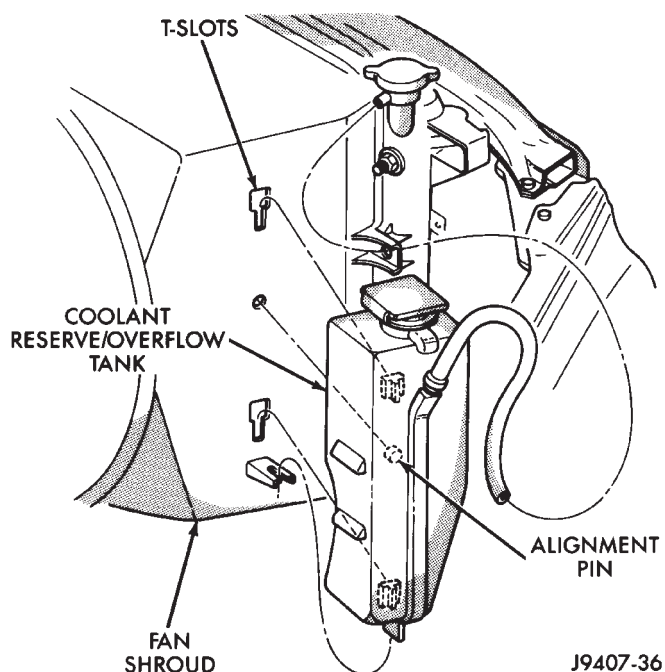

Fig. 36 COOLANT RESERVE/OVERFLOW TANK—ALL EXCEPT 8.0L V-10 ENGINE
- (1) Remove overflow hose from radiator.
- (2) Unsnap the coolant reserve/overflow tank from fan shroud. Lift straight up. The fan shroud is equipped with T-shaped slots (Fig. 36) to attach the tank. An alignment pin is located on the side of tank.